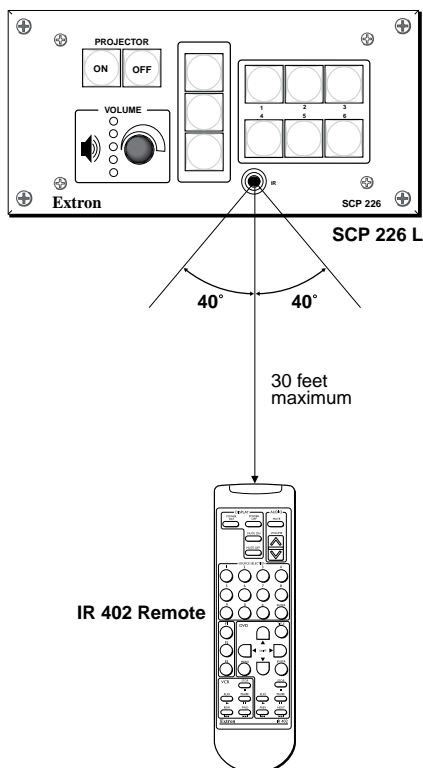

Figure 25. Using the IR 402 with an SCP 226
- ④ **AAP mounting spaces (SCP AAP models only)** — Mount up to four single space AAPs or control modules (IRCMs or RCMs) here.
- ⑤ **IR signal pickup sensor (SCP 226 models only)** — This sensor allows control of the SCP 226 using an optional Extron IR 402 remote control. Point the remote directly at the sensor. The remote has a range of approximately 30 feet (12 m) within 40 degrees on either side of the axis. Figure 25 shows use of the IR 402 with an SCP 226 L.